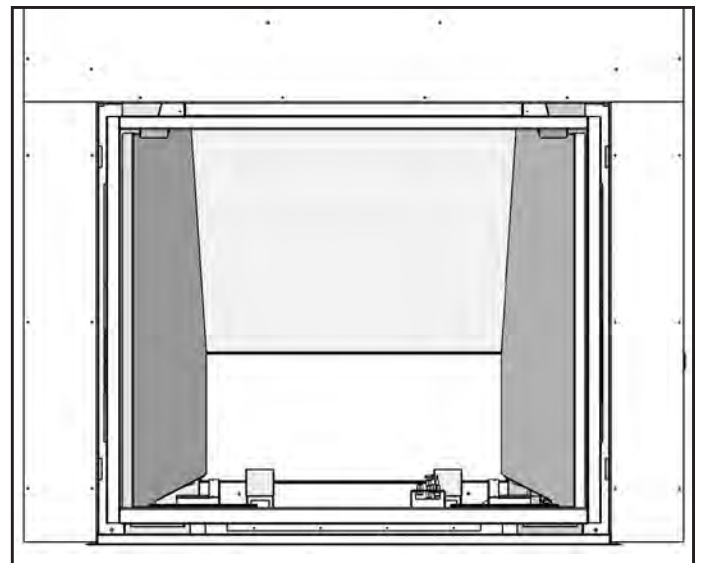

Figure 45: Top Porcelain Panel in Place.
5. Install the Top Panel by placing it on top of the Rear Panel and behind the Left Panel (see Figure 45). Hold it with one hand or have someone else hold it for you while you place the last panel. **WARNING:** If this panel falls from this location it will possibly break or the paint work will become chipped.